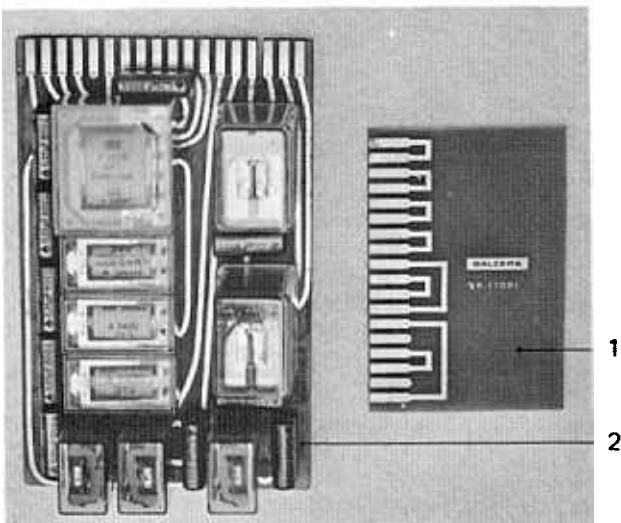

Fig. 8
- 17. Relay plate E 5 COAT-O-MATIC (see Fig. 8, item 2)